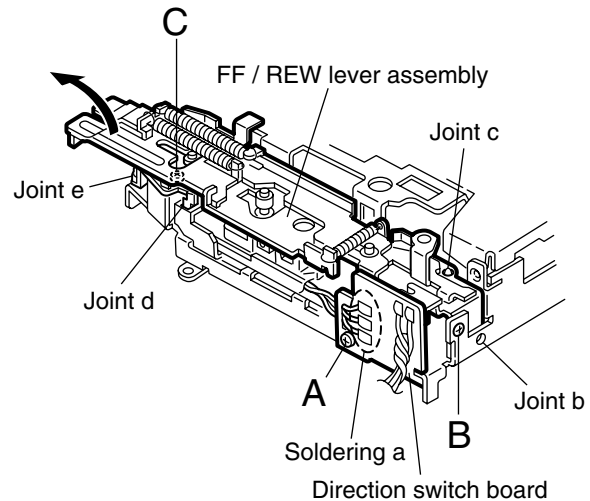

Fig.1
■ Removing the direction switch board (See Fig.1)
■ Removing the FF / REW lever assembly (See Fig.1)
■ Reattaching the FF / REW lever assembly (See Fig.1)